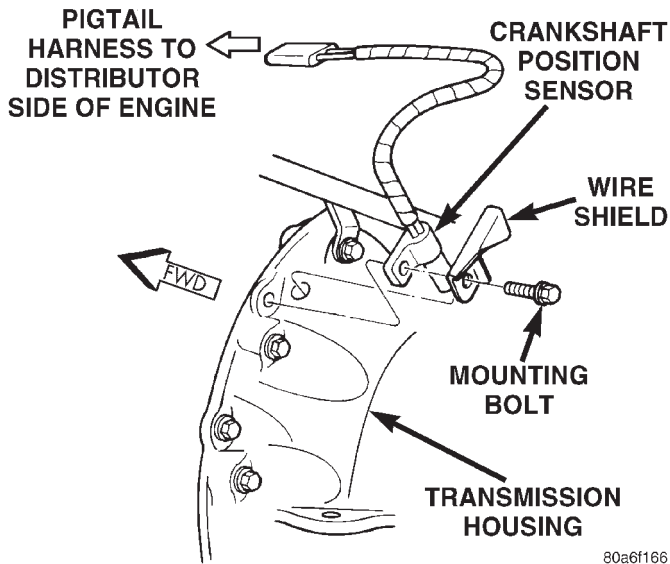

Fig. 31 Crankshaft Position Sensor—4.0L6-Cylinder Engine
The crankshaft position sensor is mounted to the transmission bellhousing at the left/rear side of the engine block (Fig. 31). The sensor is attached with
one bolt. A wire shield/router is attached to the sensor (Fig. 31).
- (1) Position sensor flush against machined area and into opening on transmission bellhousing.
- (2) Position sensor wire shield to sensor (Fig. 31).
- (3) Install bolt through wire shield and sensor.
- (4) Tighten sensor mounting bolt to 7 N·m (60 in. lbs.) torque.
- (5) Route wiring harness into wire shield.
- (6) Connect 3-way sensor electrical connectors.